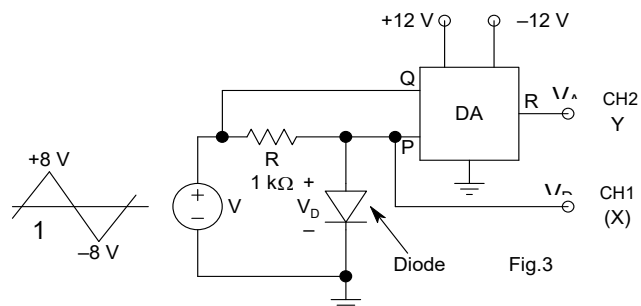

Fig.3
- A. Wire the circuit of Fig.3. Connect the inputs to the DA as indicated. **Be sure to connect the +12 V, -12 V, and GND connections also to the PCB. Note that the DA measures the diode current in mA.** Hence, 1 mA of current will give 1 Volt at the V_A output.
Wire the circuit of Fig.3 with the given Zener diode instead of the diode used in Sec.1.1. Repeat the steps (A) to (G) of Section 1.1 and obtain the characteristics of the given Zener diode. **(Note that the Zener has very similar forward characteristic in the 1st quadrant).** In step (E) measure both the Zener breakdown voltage (V_Z) and the forward knee voltage (V_γ). Similarly, in step (G) measure the resistances in both the forward and Zener regions.